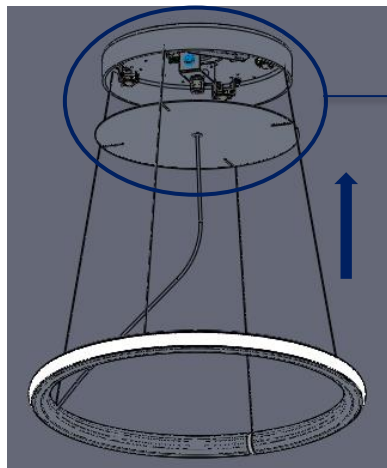

FIG. 14 - INSTALLATION VIEW
5. Raise the ARO LUMINAIRE up, with multiple people, to the ceiling and feed the AIRCRAFT CABLE through the GRIPLOCK and CORD through NIPPLE which is available in MOUNTING BRACKET ASSEMBLY. Adjust the AIRCRAFT CABLE to the desired length as shown in FIG. 14 & 15 below.